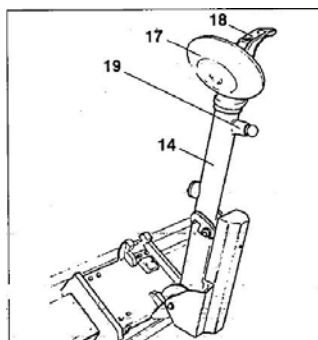

Fig.6.3
On the Worker tyre changer there is also a knob (19, Fig.6.3) which allows to replace tools (for instance for mounting accessory RT Tubeless roller).
- 1) Move the bottom joystick (15, Fig.6.2) upwards (a) the tool arm (14, Fig.6.3) must be tilt in "non-working" position.
move the joystick leftwards (c): the spindle-holding arm (2, Fig.3.1) must move rightwards and the tool-holding arm (14, Fig.6.3) leftwards; moving at the same time, the two arms must get closer,